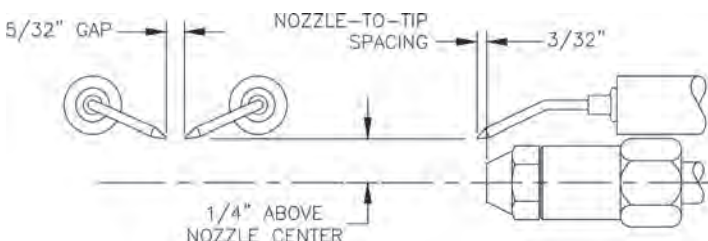

Figure 32: Electrode Tip Gap and Spacing
- Check electrodes to comply with dimensions shown in Figure 32. For adjustment, loosen the electrode clamp screw and slide/rotate electrodes as needed. Securely re-tighten the clamp screw when finished.